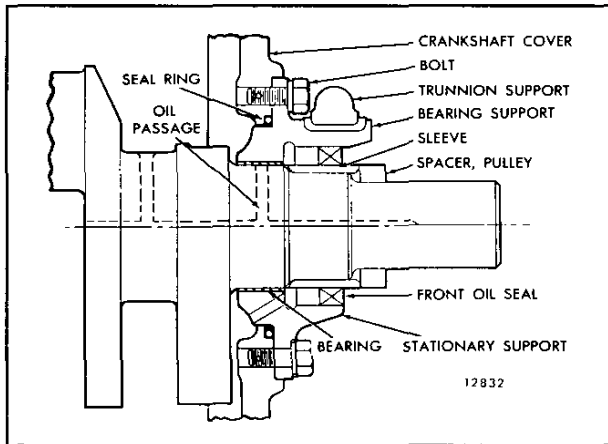

Fig. 1 - Outboard Bearing Support Assembly
The crankshaft outboard bearing support (Fig. 1) houses the crankshaft front outboard bearing (bushing) and the crankshaft front oil seal. The support is a one-piece casting which bolts directly to the engine front cover, providing easy access for removing and installing the oil seal and bearing. A seal ring is used between the bearing support and the engine front cover.
2. Remove the front trunnion (Fig. 1), if used.